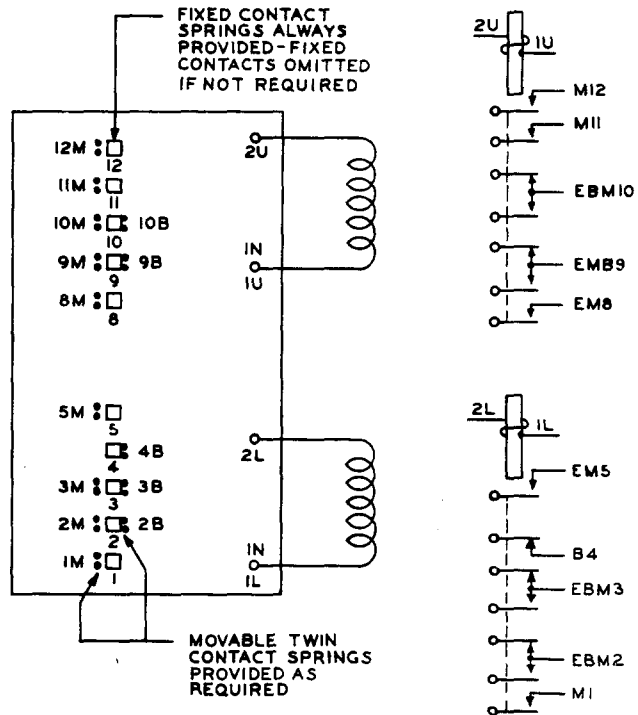

Fig. 12 - Winding and Contact Spring Arrangement as Viewed From the Front (contact side) — AK- and AM-Type Relays
2.29 Contact Springs (front view): As viewed from the front of the relay there are 10 contact positions arranged vertically in two groups of five each as shown in Fig. 12. The contact springs are numbered as if there were twelve positions as in the case of 12-position AF-, AG-, AJ-, or AL-type relays shown in Fig. 8. Positions 6 and 7 are omitted, this space being taken by part of the two cards of the relay. Each position has a single fixed spring and may or may not have movable make and/or break twin springs associated with it, since not all relays have a full complement of movable springs. The make springs are located to the left of the fixed springs and the break springs to the right. The fixed springs in the lower group are numbered consecutively from 1 to 5, beginning at the bottom. The springs in the upper group are numbered from 8 to 12. The movable twin springs are numbered the same as their associated fixed springs with the appropriate suffix M (make) or B (break).
2.31 Winding Terminals: Winding terminals are provided as required and extend from the front of the relay, where test connections can be made, to the rear where the external wiring is connected. As viewed from the front, the winding terminals are to the right of the relay core as shown in Fig. 12. The terminals for the upper coil appear near the top of the spoolhead and those of the lower coil near the bottom of the spoolhead, the four terminals being in a vertical line. The terminals of the upper coil are designated 1U and 2U from the bottom up, and those of the lower coil are designated 1L and 2L from the bottom up. As viewed from the rear, the winding terminals are located to the left of the contact spring terminals, and are designated the same as when viewed from the front.